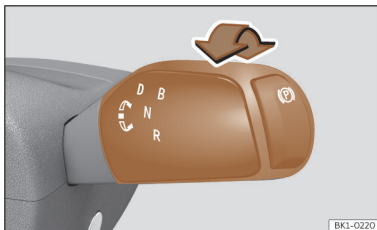

Fig. 106 Gear selector with the electronic parking brake button.
The gear selector has a button (P) for the electronic parking brake. To change from neutral **N** to another position, switch on the ignition, depress the brake pedal and turn the selector in the desired direction >>> **Fig. 106** (arrow):
Change between **D** and **B** by turning the gear selector forwards one position from **D/B** >>> **Fig. 106**. The selector always returns to the initial position. Turning it forwards again changes back to **D**.